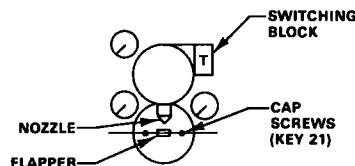

Figure 3. Schematic of Nozzle, Flapper, and Switching Block Orientation
4. For screwed connections, insert the displacer end of the controller-sensor assembly into the tank connection, and screw the sensor threads into the tank connection threads. Tighten sufficiently to seal the threads and to position the controller as shown in the appropriate view of figure 3. Also, make sure that the controller case is level.
e. Position the controller as shown in the appropriate view of figure 3. While making sure that the controller case is level, secure the controller to the sensor with two cap screws (key 21, figure 7 or 8).
3. Connect the displacer cage (key 8, figure 11) to the tank using the equalizing piping. The controller-sensor assembly must be installed with the cage in a horizontal position and the controller positioned as shown in the appropriate view of figure 3. After installing, make sure the controller case is level.
3. Check figure 3 to be sure that the orientation of parts is correct for the controller type, action, and mode desired. If necessary, refer to the Changing Controller Action or Mode section.
1. Refer to figure 3 to determine the required orientation of the nozzle (key 23) and flapper (key 22) for the controller type, action, and mode desired. Figure 3 illustrates the controller schematically as viewed from the cover opening.
3. Open the cover (key 35A). Remove the machine screw and flapper insert (keys 43 and 22).
4. Unscrew the nozzle (key 23).
5. Loosen the machine screw (key 28), and remove the flapper carrier (key 42).
6. Remove the two cap screws (key 21), and rotate the entire controller 180 degrees on the sensor. Reinstall the cap screws.
8. Install a new O-ring (key 24) on the nozzle if needed. Install the nozzle.
10. Position the flapper carrier so that the surface of the flapper insert is parallel with the nozzle opening, and tighten the machine screw (key 28). If the flapper insert surface is not parallel with the nozzle opening, the controller will malfunction.
11. Compare the controller to figure 3 to be sure the orientation of the nozzle and flapper is correct.
13. Position the vents (key 27) so that the vent openings face downward.
14. If table 3 indicates that the switching block (key 26A) is to be rotated, proceed to the following section.
For Type 2900 and 2901 controllers, the "T" on the switching block should face the cover opening for the proportional (throttling) control mode, and the "S" should face the cover opening for the on-off (snap-acting) control mode (see figure 3). To rotate the switching block, proceed as follows:
1. Open the controller cover (key 35A). Remove the two machine screws and washers (keys 33 and 25).
2. Rotate the switching block 180 degrees on the relay (key 1). (The same switching block surface should contact the relay before and after rotating.) Reinstall the washers and machine screws (keys 25 and 33).
3. Compare the controller to figure 3 to be sure the correct switching block letter is visible.
4. If the nozzle (key 23) is to be changed, complete steps 3, 4, 8, 9, and 10 of the Inverting the Controller section.